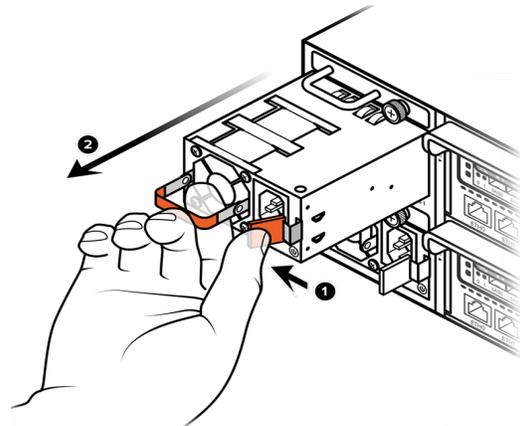

Figure 3-5. Remove PSU from Chassis
1. Grasp the PSU handle with your index finger and press the PSU latch inward to release it from the power supply module (PSM). See Figure 3-5.